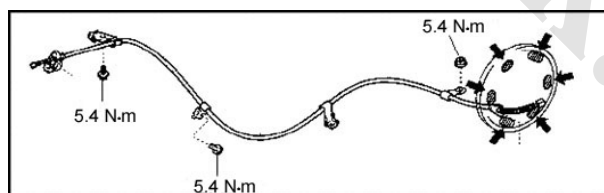
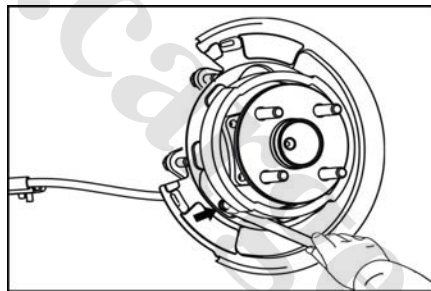

Fig. 2-76
Fig. 2-77
Disassembly of parts and components (as shown in Fig. 2-76)
- 7) Remove the accessories of the parking brake rod as shown in Fig. 2-76.
- ① Dismantle the connector of the parking brake rod switch.
- ② Take off the parking brake rod after removing the 2 bolts.
- ① Remove the No. 3 parking brake cable from the vehicle body after removing the 4 bolts.
- ② Remove the cable components after disconnecting the components of No. 3 parking brake cable from the parking brake balancer.
- 17) Remove the components of No. 3 parking brake cable. Disconnect the components of No. 3 parking brake cable from the soleplate after removing the bolts, as shown in Fig. 2-77.